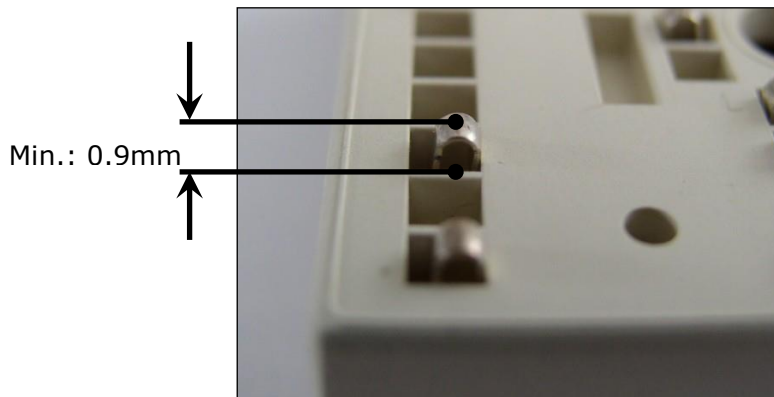

Figure 8: Spring overlay
- The spring must protrude from the housing no less than 0.9 mm (Figure 8), measured from the top surface to the head of the spring, to ensure a proper contact after mounting.